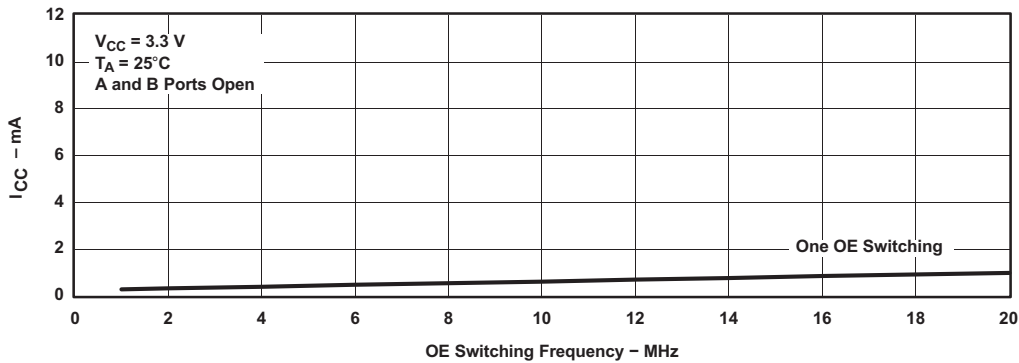

Figure 5. Typical I_{CC} vs OE Switching Frequency
(1) V_{IN} and I_{IN} refer to control inputs. V_I , V_O , I_I , and I_O refer to data pins.
(2) All typical values are at $V_{CC} = 3.3 \text{ V}$ (unless otherwise noted), $T_A = 25^\circ\text{C}$.
(3) For I/O ports, the parameter I_{OZ} includes the input leakage current.
(4) This is the increase in supply current for each input that is at the specified TTL voltage level, rather than V_{CC} or GND.
(5) This parameter specifies the dynamic power-supply current associated with the operating frequency of a single control input (see Figure 5).